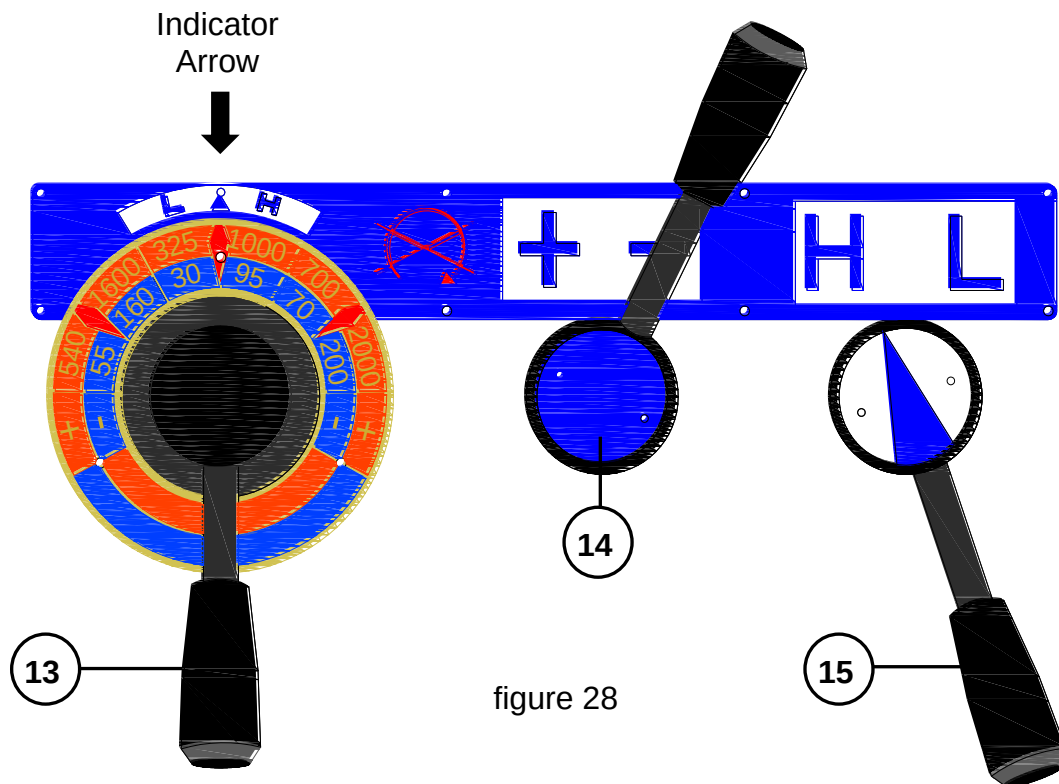

figure 28
The speed of the spindle is set by the position of the three speed control handles as shown in (fig. 28). As an example they will be set for a speed of 95 RPMs. The selector handle (13) is rotated to the center position. Each of the three positions will click when the handle is properly rotated. The 95 RPM selection is in the blue area, so selection handle (14) should be in the minus (-) position as shown. To the right of the indicator arrow is the 95 RPM value. The (H) indicates high speed, whereas the 30 RPM value would be the low (L) speed setting. The selector handle (15) is therefore set to (H) for high speed. Spindle speed is measured in RPM (revolutions per minute). The following 12 spindle speeds are possible on this lathe: 30, 55, 70, 95, 160, 200, 325, 540, 700, 1000, 1600, and 2000 RPM.